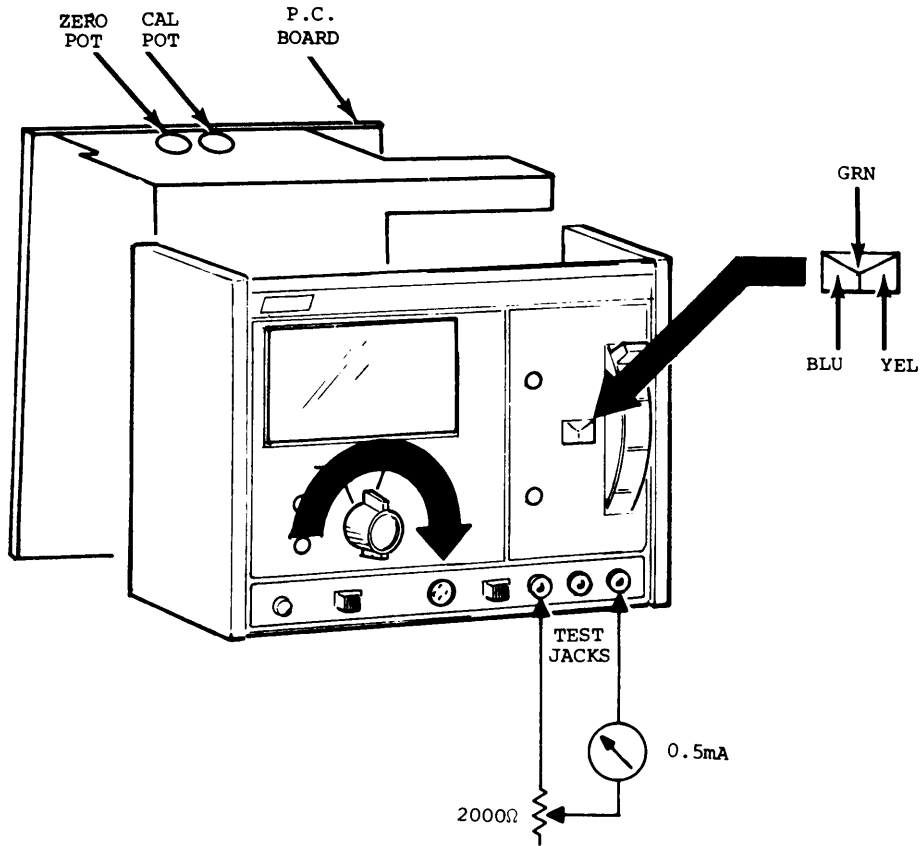

Fig. 4. Location of calibrating controls.
- b. Remove the back of the instrument by removing the five screws at the bottom and rear of the case. Locate TP1 near the top center of the P.C. board. Connect TP1 to the metal chassis with a jumper. Turn on the 520B. If the meter is not indicating zero, adjust the ZERO control with a screwdriver through the left side hole in the top of the chassis until the meter balances. The zero control is identified on the P.C. board just below the adjustment hole (see Fig. 4). Remove the jumper.
- c. To calibrate the meter, put the TEST switch in the uppermost (green) position. Connect a  $2000\Omega$  potentiometer and a 0-5mA meter in series from the yellow jack to the blue jack as in Fig. 4. Then while holding the FUNCTION switch in the LEAKAGE position, adjust the potentiometer for 5 milliamperes in the external meter. If the meter on the 520B panel does not read full scale, adjust the "CAL" control through the right side hole in the top of the chassis. The CAL pot is identified on the P.C. board just below the adjustment hole. See Fig. 4.